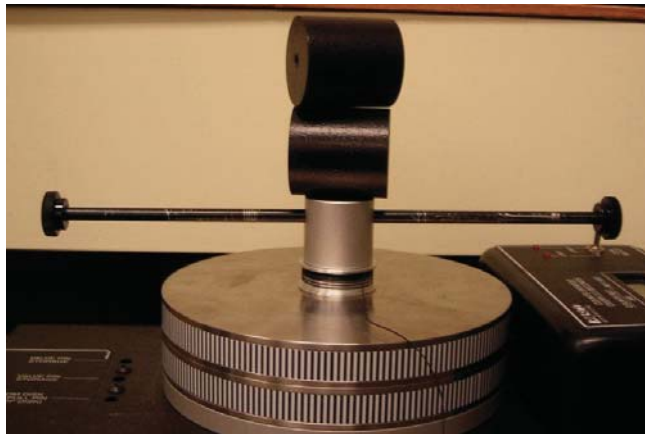

Figure 7.6: View of main axle with 2 masses at radius $r = 0$
10. We would like to place the two cylinders at $r = 0$. To do this, we will use the vertical bar on the support (see Figure 7.6). When you place the cylinders on the vertical bar, make sure they are oriented the same way as in your previous trials, i.e. with the axes of the two cylinders perpendicular to the vertical bar. As before, make sure to tighten the thumbscrews on the cylinders. Follow the procedure in steps 3–8 to calculate the moment of inertia of the body with the two cylinders at $r = 0$. Include this data in your data table.